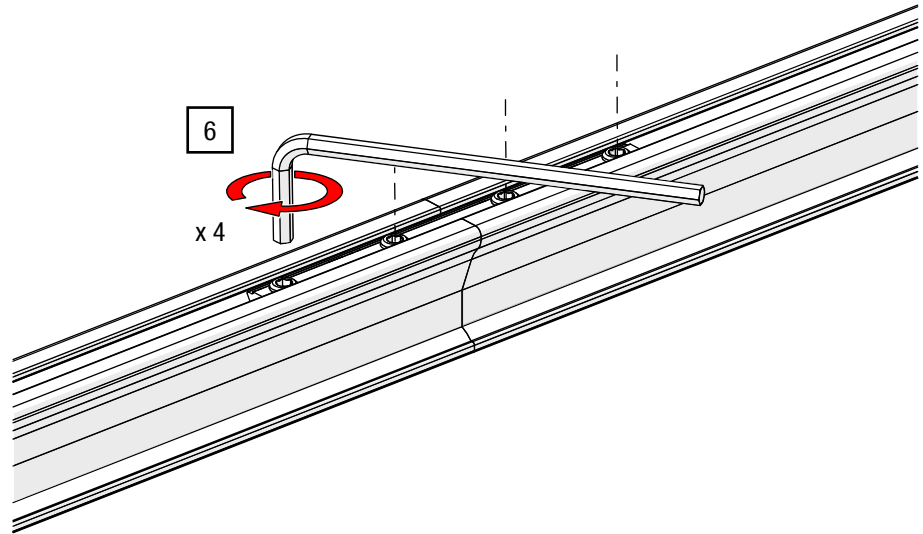

Fig. 30: Track splice – Tightening grub screws
6. Tighten the four M5 grub screws from the centre joint outwards using an Allen key AF 2.5 and a torque of 6 Nm (see Fig. 30).